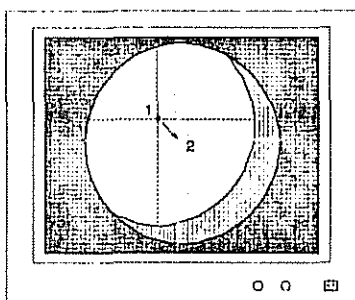

Fig 1, Centring of the image
- switch off fluoroscopy, see Fig.1 and adjust (with an open-ended spanner) the middle of the image (1) exactly in the middle of the blanking circle (2), check the position during fluoroscopy